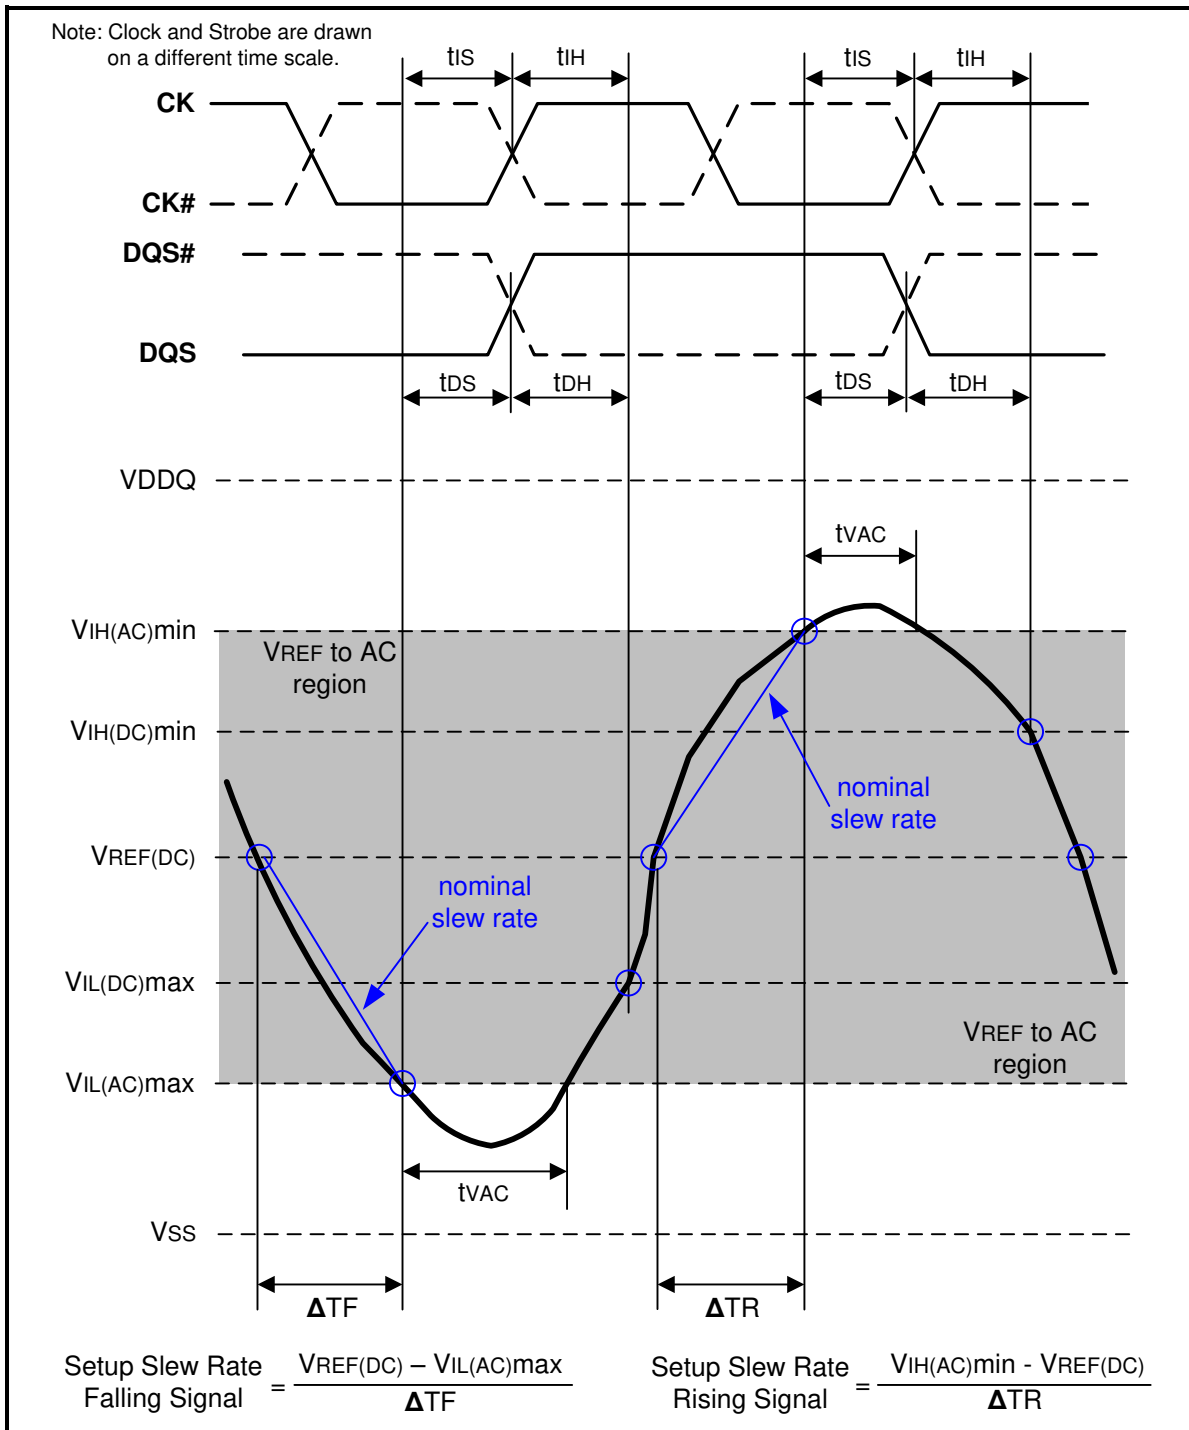

Figure 107 – Illustration of nominal slew rate and tvac for setup time tds (for DQ with respect to strobe) and tis (for ADD/CMD with respect to clock)
Setup ( $t_{IS}$ ) nominal slew rate for a rising signal is defined as the slew rate between the last crossing of  $V_{REF(DC)}$  and the first crossing of  $V_{IH(AC)min}$ . Setup ( $t_{IS}$ ) nominal slew rate for a falling signal is defined as the slew rate between the last crossing of  $V_{REF(DC)}$  and the first crossing of  $V_{IL(AC)max}$ . If the actual signal is always earlier than the nominal slew rate line between shaded 'VREF(DC) to AC region', use nominal slew rate for derating value (see Figure 107). If the actual signal is later than the nominal slew rate line anywhere between shaded 'VREF(DC) to AC region', the slew rate of a tangent line to the actual signal from the AC level to DC level is used for derating value (see Figure 109).
Setup (tDS) nominal slew rate for a rising signal is defined as the slew rate between the last crossing of VREF(DC) and the first crossing of VIH(AC)min. Setup (tDS) nominal slew rate for a falling signal is defined as the slew rate between the last crossing of VREF(DC) and the first crossing of VIL(AC)max (see Figure 107). If the actual signal is always earlier than the nominal slew rate line between shaded 'VREF(DC) to AC region', use nominal slew rate for derating value. If the actual signal is later than the nominal slew rate line anywhere between shaded 'VREF(DC) to AC region', the slew rate of a tangent line to the actual signal from the AC level to DC level is used for derating value (see Figure 109).